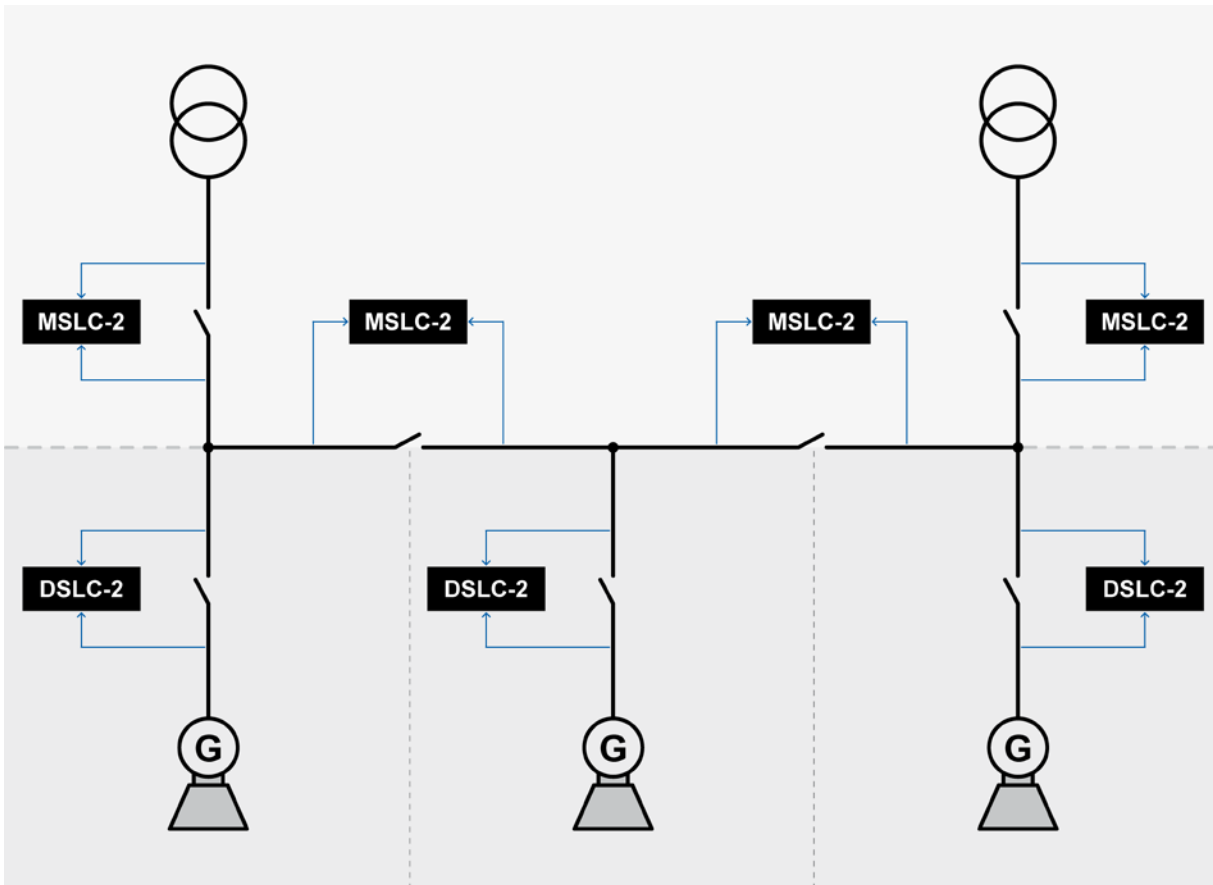

Figure 3-41: Example of an online diagram
1. Draw an online diagram of your application with all generators, breakers and utility inputs. Then arrange the DSLC-2 (and MSLC-2) at the according breaker. Refer to Figure 3-41.